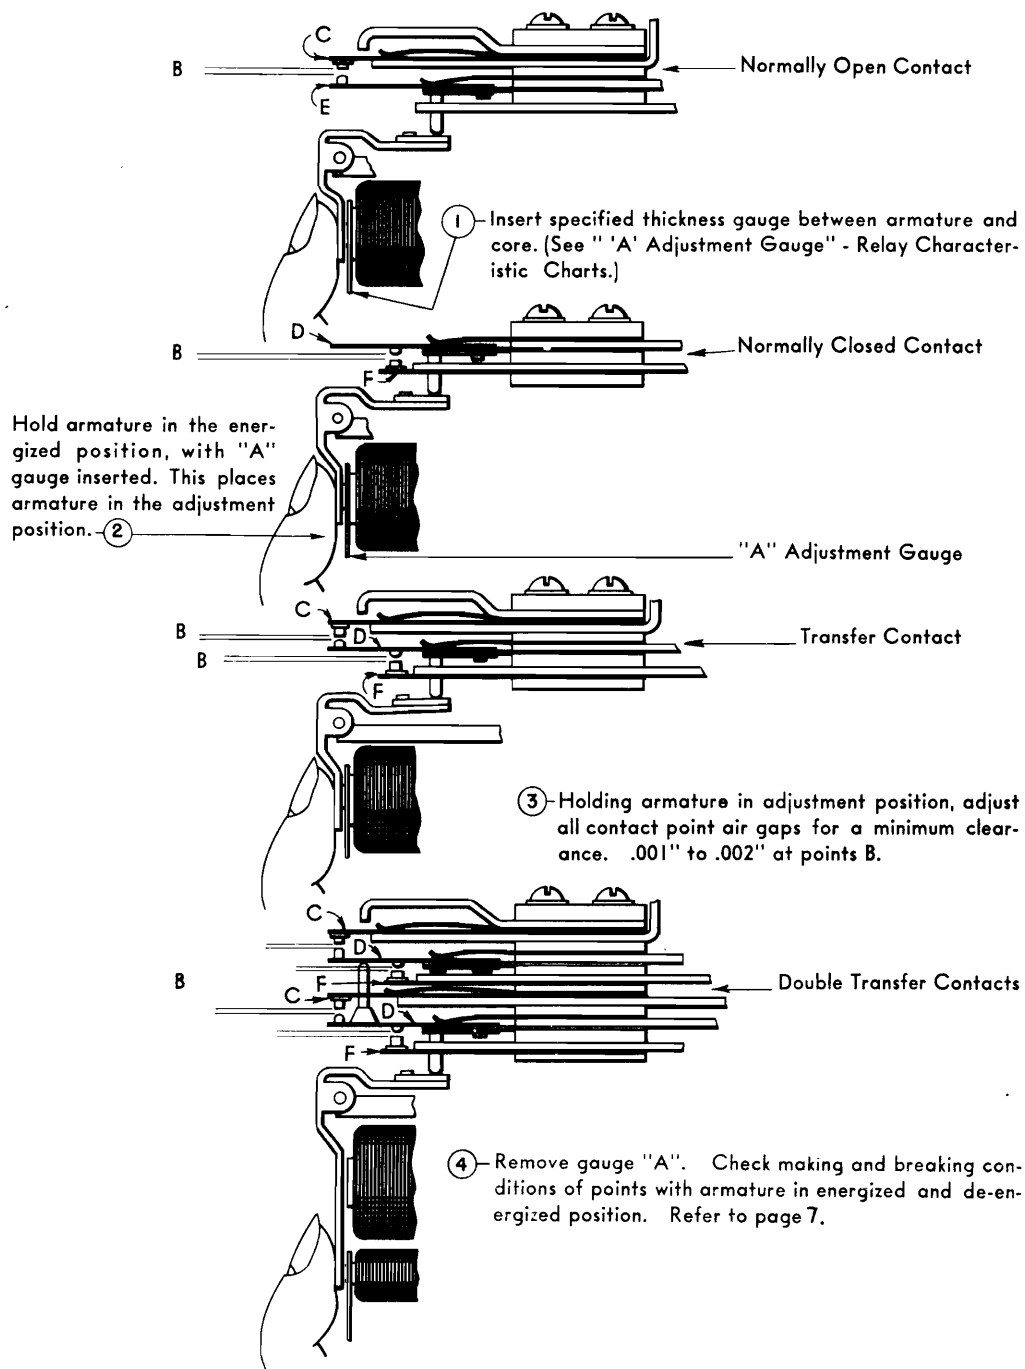

Figure 5. Contact Point Adjustments
Procedure (Figure 5):
- 4—Contact Point Adjustment. (Refer to Figure 5 - Duo - Relays.) Insert a .012" "A" Adjustment Gauge between armature and core; attract armature manually. Then adjust all contacts for a minimum air gap between points. (.001" + .002")
c. Adjust contact strap supports for a *minimum clearance* $.001''$ to $.002''$ between both normally open and normally closed points. Check to see that normally closed points break before normally open points make (Figure 5).